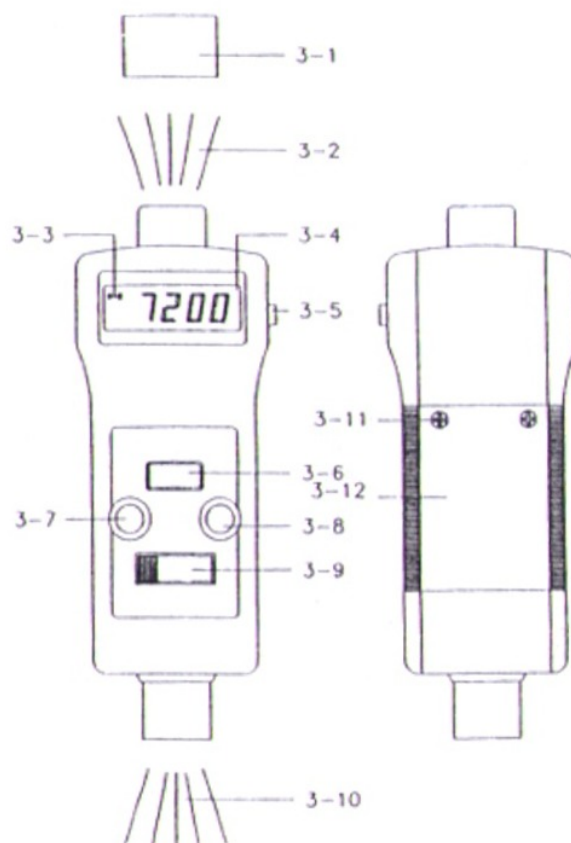

Fig. 1
Determine the " Function/Range Switch ( 3-9, Fig. 1 ) to
- b. Depress the " Measuring Button " ( 3-5, Fig. 1 ) & align the " Stroboscope Flash light beam " ( 3-10, Fig. 1 ) with the applied target.
- c. When checking speed, care must be taken to insure that the strobe is flashing in unison (one to one) with the object being monitored. Turn the " Fine Adjust Knob " ( 3-7, Fig. 1 ) or " Coarse Adjust Knob " ( 3-8, Fig. 1 ) until the mark look like " Stop " ( synchronize ).
- a) Select the " Function/Range Switch " ( 3-9, Fig. 1 ) to the " Photo RPM " position.
- b) Apply a reflecting mark to the object being measured. Depress the " Measuring Button " ( 3-5, Fig. 1 ) & align the " Tachometer Light Beam " ( 3-2, Fig. 1 ) with the applied target. Verify that the " Monitor Indicator " ( 3-3, Fig. 1 ) lights when the target pass through the light beam. Release the "Measuring Button" when the reading stabilizes ( about 2 seconds ).
- \* *First push the " Memory Call Button " ( 3-6, Fig. 1 ) :
- b) Open the Battery Cover ( 3–11. Fig 1 ) by use the screwdriver to loss the screws and remove the batteries.